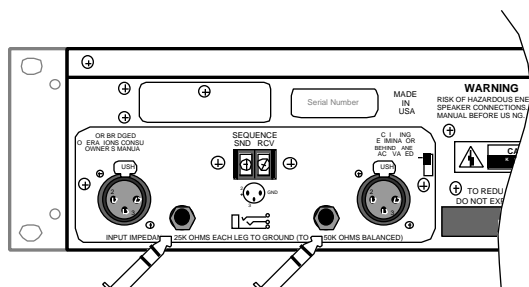

Figure 3A
**1/4-inch phone jack:** Use a 3-conductor TRS 1/4" phone plug. The tip of the plug carries the (+, hot, non-inverting) side of the signal, the ring carries the (–, low, inverting) side of the signal and the sleeve is ground (see Figure 3A).